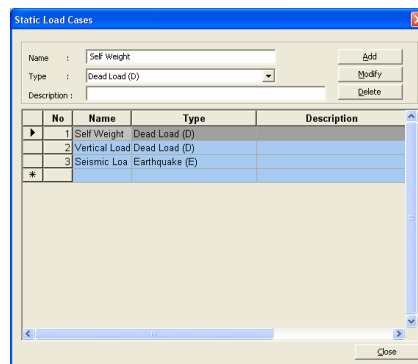

Figure 5.19 Static Load Cases dialog box
3. Enter “**Self Weight**” in the **Name** field of the **Static Load Cases** dialog box (Fig.5.19).
6. Enter the remaining load cases in the **Static Load Cases** dialog box as shown in Fig.5.19.